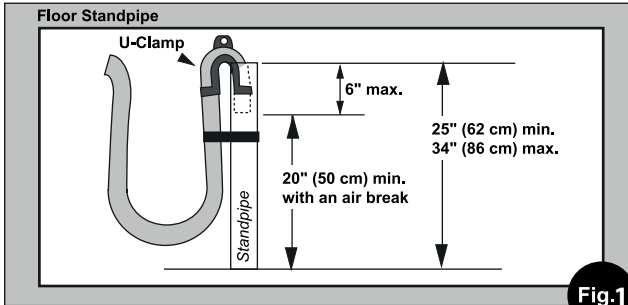

Fig.1
It is possible for the water to be discharged into a sink, standpipe or drainpipe, but an air break must be available at a min. 20" height to prevent the machine from siphoning (Fig. 1).
- Insert the outlet end of the drain hose into the standpipe, wall or floor drain (Fig. 1).